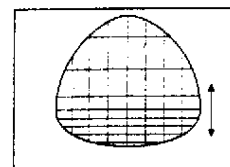

Fig. 8
- Adjust the vertical symmetry to obtain symmetry scanning between upper and lower picture (fig. 8).